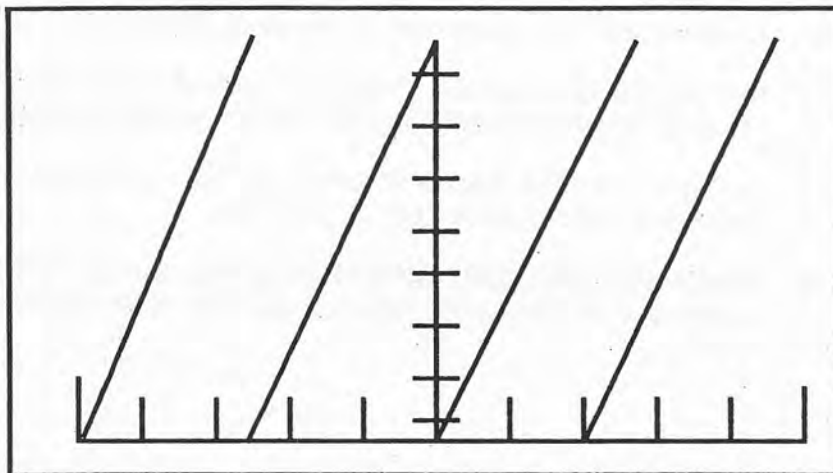

Figure 4-5. Typical Test Waveform
1. Set the signal monitor to the parameters listed in Table 4-6. Refer to Figure 4-5 for a typical test waveform display.